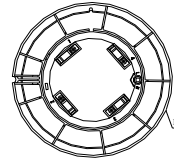
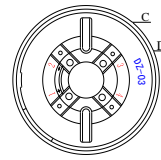

Fig. 3
Fig. 4
- 3 Secure the detector base (Fig. 4) with 2 tapping screws, and wire them properly. Align the orientation mark B on the flashing beacon base to mark C of detector base, and rotate the flashing beacon base clockwise to D. Refer to Fig. 3 and 4.